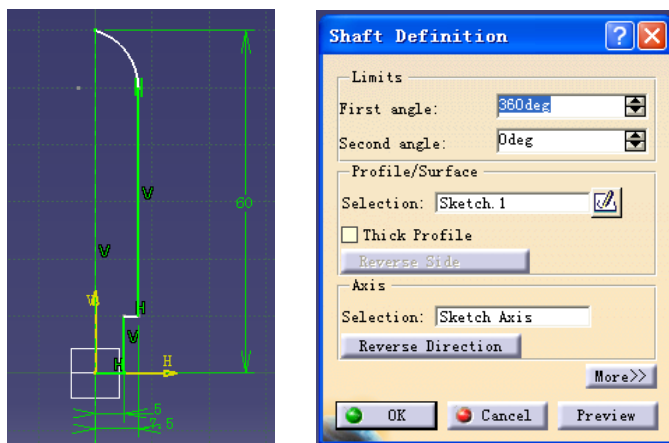

图 3-108
(1) 用 xy plane → Sketcher → Profile → constraint → Axis 画如图 3-108，点击